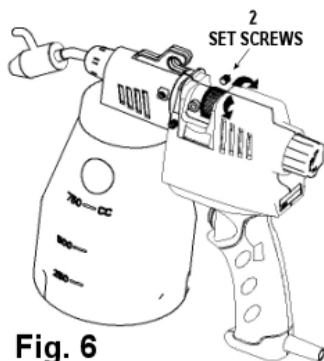

Fig. 6
5. Knurled Adjusting Ring: The knurled adjusting ring is used for positioning the front part of gun body. When the push rod is in the right position for the pump cylinder, the air pressure created by its reciprocating motion will reach the most appropriate spraying force for cleaning. (*Note*: The factory settings are ready for optimal performance). If any adjustment needs to be made, loosen the two set screws on the front body. Turn the knurled adjusting ring clockwise or counterclockwise. Tighten the two set screws when the desired spray condition is achieved. See Fig.6.